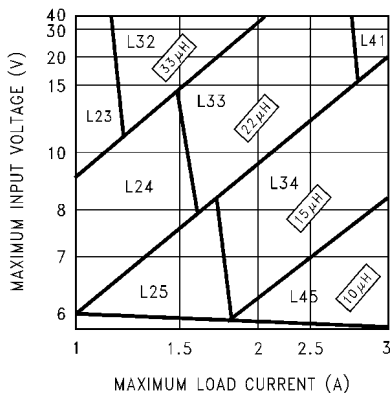
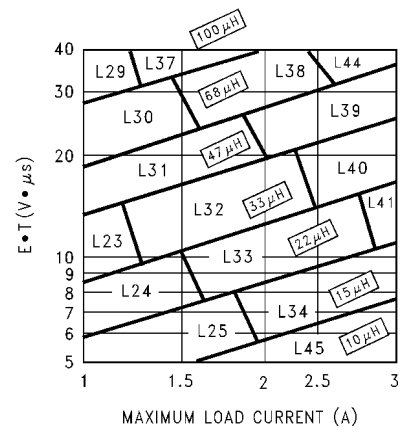

Figure 8-2. LM2676-3.3
Figure 8-5. LM2676-ADJ
Step 3: Determine the inductor required by using one of the four nomographs (Figure 8-2 through Figure 8-5). Table 8-3 provides a specific manufacturer and part number for the inductor.
Step 5: Determine an input capacitor from Table 8-7 or Table 8-8 for fixed output voltage applications. Use Table 8-1 or Table 8-2 to find the specific capacitor type. For adjustable output circuits, select a capacitor from Table 8-1 or Table 8-2 with a sufficient working voltage (WV) rating greater than V_{IN} max, and an RMS current rating greater than one-half the maximum load current (two or more capacitors in parallel can be required).
Step 3: Use the nomograph for the 3.3-V device (Figure 8-2). The intersection of the 16-V horizontal line (V_{IN} max) and the 2.5-A vertical line (I_{LOAD} max) indicates that L33, a 22- μH inductor, is required.